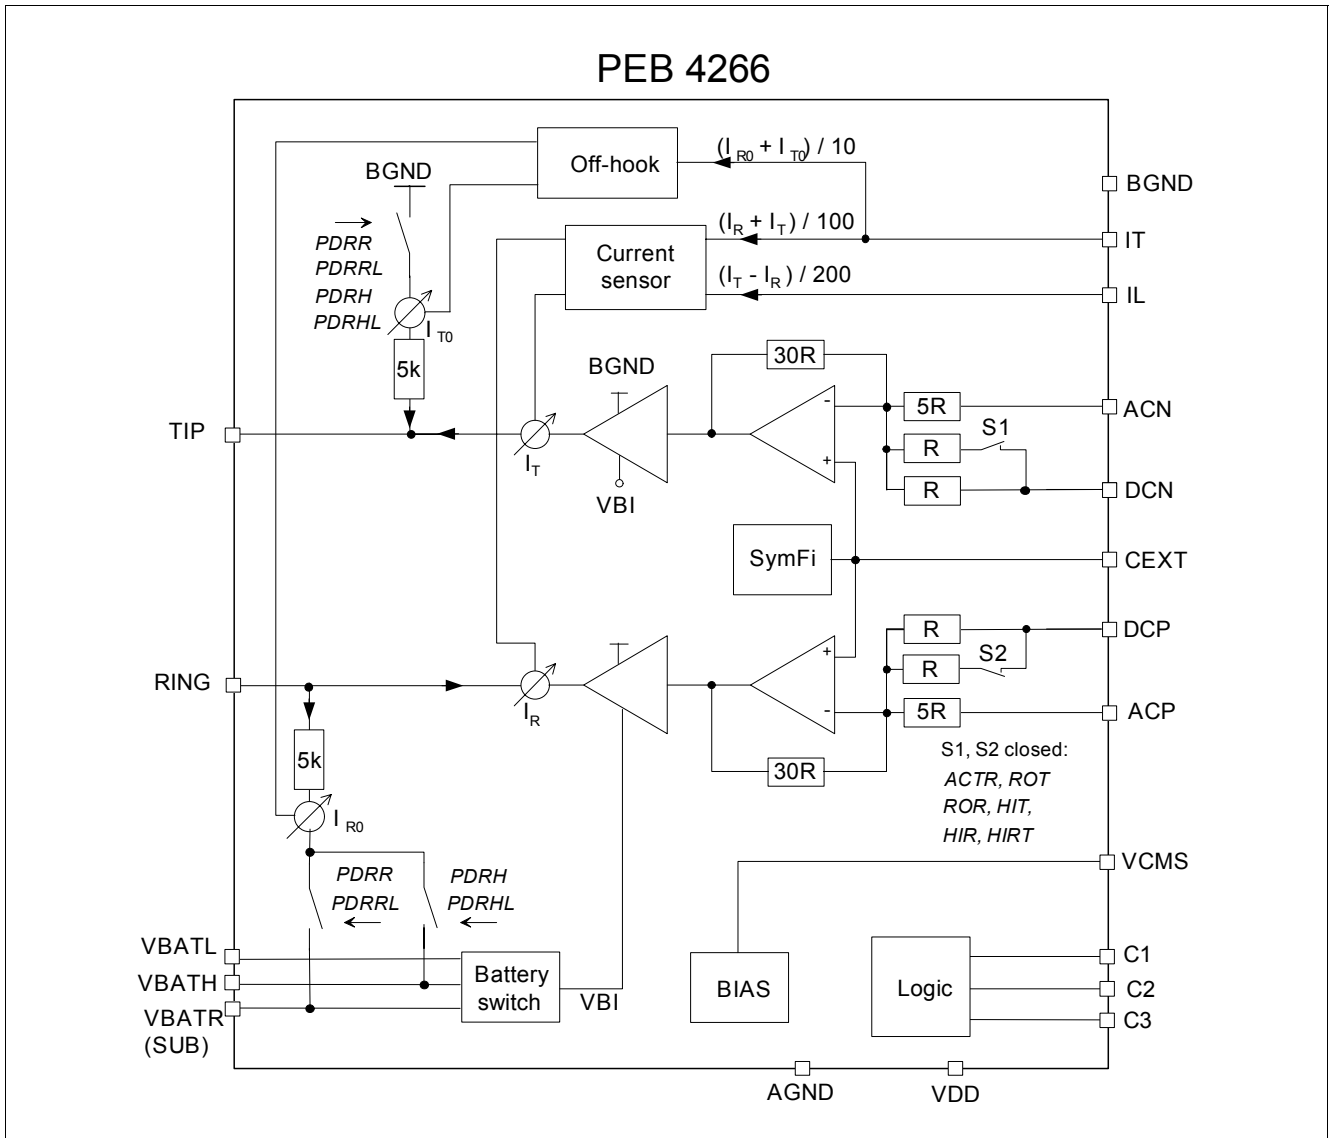

Figure 4 Block Diagram
1) V_{BI} is the output voltage of the battery switch (see Figure 4)
The currents through these resistors, I_{T0} and I_{R0} , are sensed, scaled and provided at the IT pin (see Figure 4):
Power consumption is reduced to a minimum by switching completely off all voice transmission functions. To allow off-hook detection, Power Down Resistive provides a connection of 5 k Ω resistors from TIP to BGND and RING to either VBATH (PDRH) or VBATR (PDRR), while the output buffers show high impedance (see Figure 4). The current through these resistors is sensed and transferred to the IT pin for off-hook supervision.